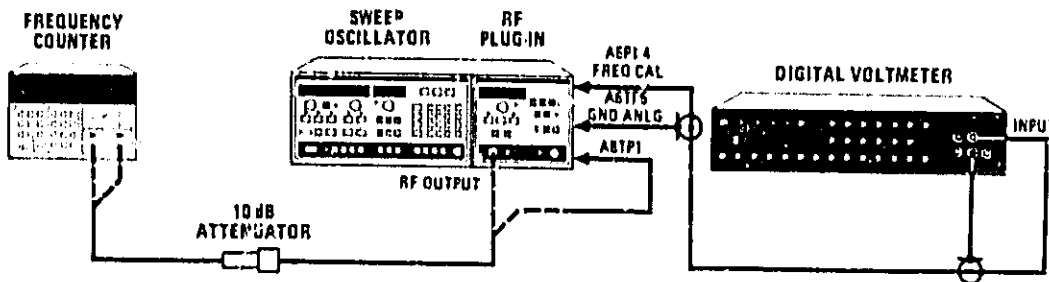

Figure 5-8. Test Setup for Frequency Accuracy Adjustments
YO Driver Board adjustments should be avoided if possible. Set up equipment as shown in Figure 5-8 and perform step 23 in Paragraph 5-17 to check frequency accuracy and sweep linearity across the band. If frequencies are within  $\pm 5$  MHz tolerance, do not make these YO Driver Board adjustments.
1. Press 8350A INSTR PRESET, set STOP frequency to 2 GHz, and press 83522A AMPTD MKR. Connect Frequency Counter to A8TP1 through the 1:1 probe (Figures 5-8 and 5-9) and check that output frequency is  $50.000 \text{ MHz} \pm 250 \text{ Hz}$ . If not, adjust A8C4 50 MHz Oscillator for correct frequency. If necessary, select A8C3 for correct adjustment range. Refer to Adjustment paragraph 5-27.
2. Connect equipment as shown in Figure 5-8 with frequency counter and 10 dB attenuator connected to RF OUTPUT. Connect the DVM to A6P1 pin 4 (FREQ CAL) and common to A6TP5 (GND ANLG).